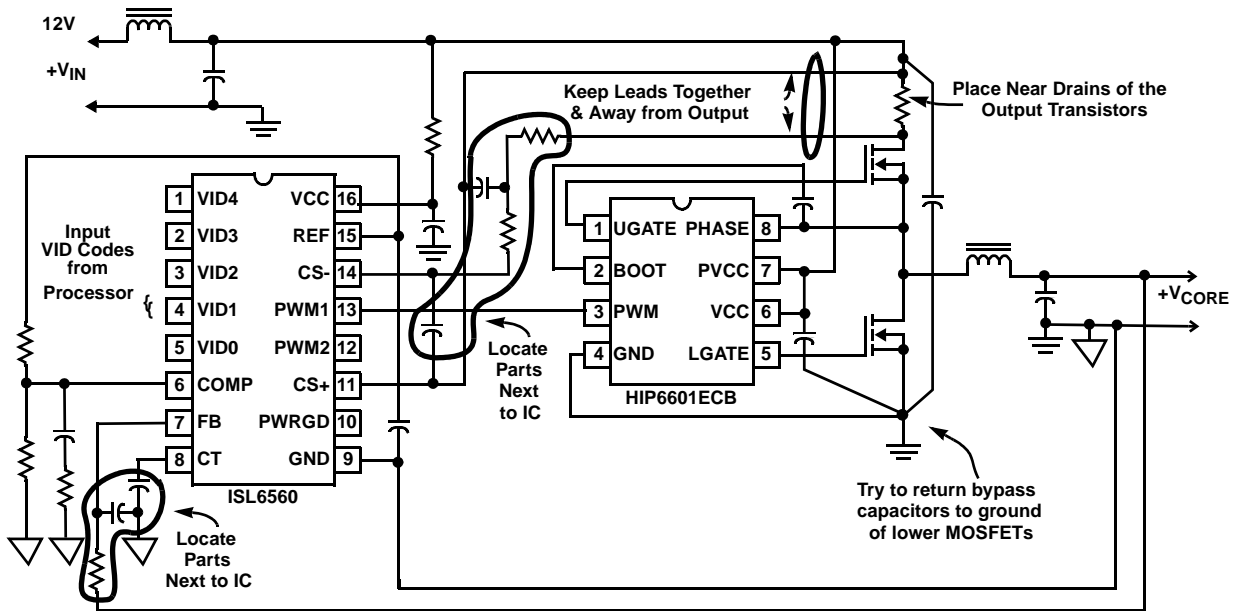

FIGURE 11. SCHEMATIC DIAGRAM SHOWING ONLY ONE CHANNEL OF 'IDEAL' COMPONENT PLACEMENT
Figure 11 shows a simplified diagram of the critical areas of a PC board layout. This diagram and the following material represent goals to work towards during the layout phase. Goals will be compromised during the layout process due to
- To obtain optimum regulation use the Kelvin connection for the input voltage sample as shown in Figure 11. The ground connection, Pin 9 of the ISL6560 should be connected to the system ground at the load.
- The two voltage sampling lines described in item 1 above should also be routed away from any high-current or high-pulse voltages such as the phase lines or pads. Doing this will reduce the possibility of coupling undesired pulses into the feedback signal and either modifying the output of the error amplifier or, if of sufficient amplitude, spuriously triggering the current comparator by readjusting the threshold voltage.